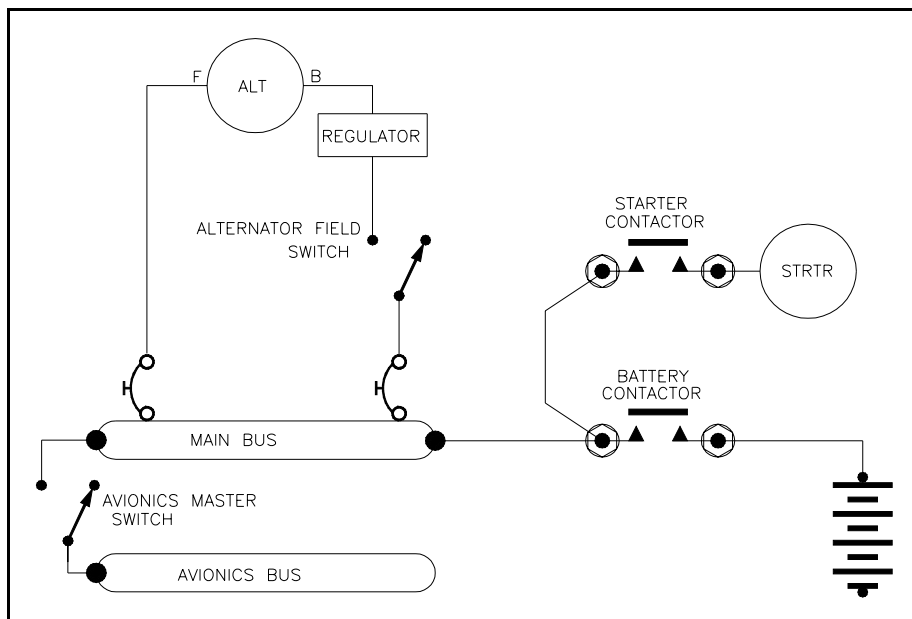
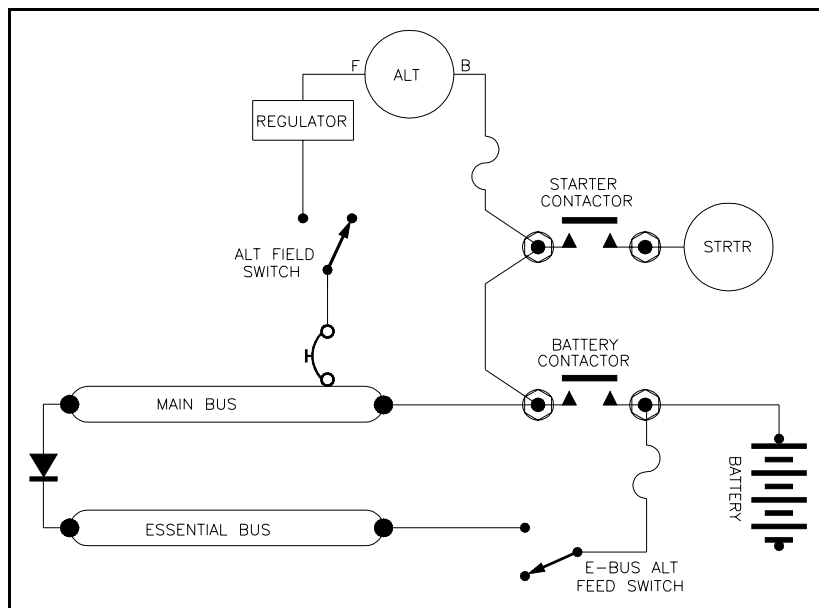
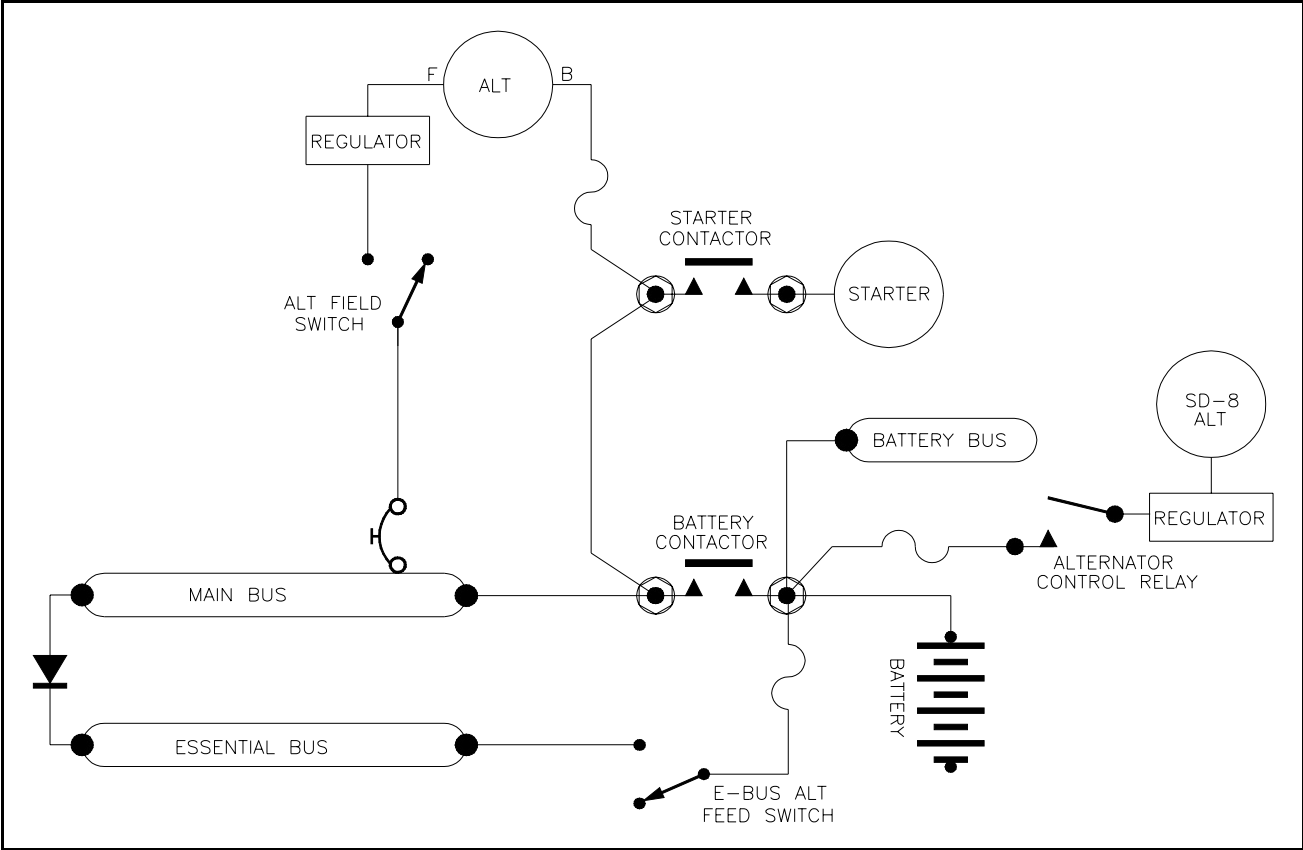
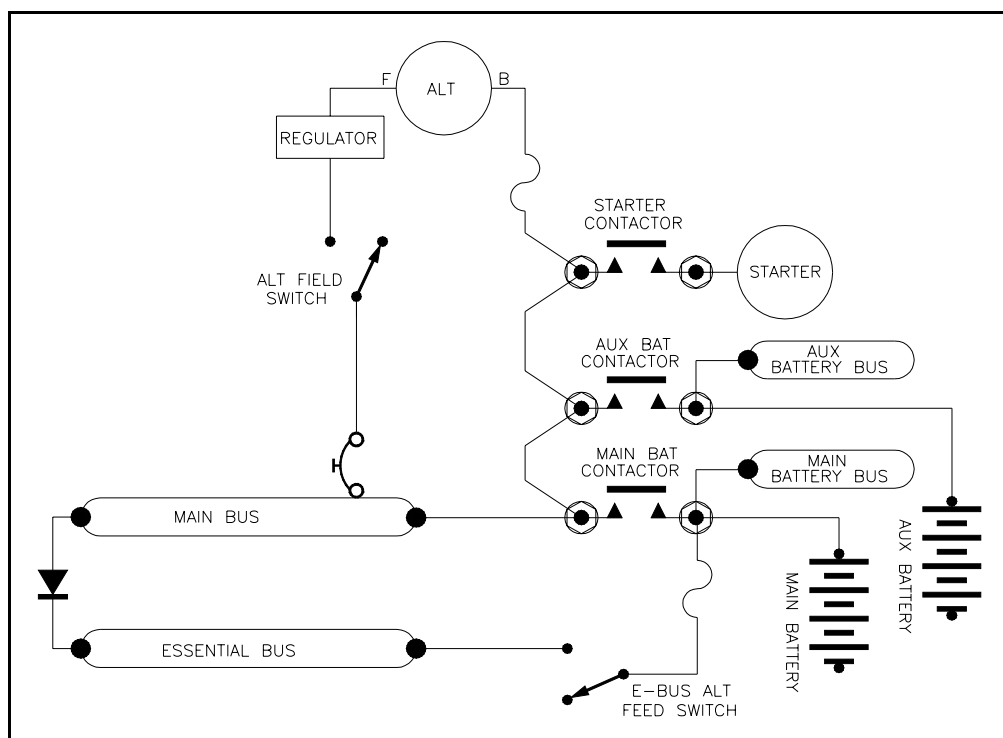

Figure 17-1. Rudimentary Single Battery, Single Alternator Power Distribution System.
Figure 17-2. Single Battery, Single Alternator System with Dual Feed Essential Bus.
Figure 17-4. Adding the SD-8 Auxiliary Alternator
Figure 17-6. Dual Battery Installation
Figure 17-1 illustrates the factory wired configuration for pilot Gomez's Cessna 172RG. Noteworthy points to ponder include the traditional practice of routing the alternator's power output lead (often called the B-lead) directly to the main bus inside the cockpit. There was probably an avionics bus with a single power feed through an "Avionics Master" switch. This particular theme for power distribution has been standard on single engine aircraft since the mid 60's. Had pilot Gomez's airplane been wired a bit differently, the course of his experience could have been much different.
Figure 17-2 makes three important modifications over the system described above. First, the alternator B-lead is tied into the power distribution system on the firewall using an in-line fuse instead of a circuit breaker. This change provides for a much lower resistance path between the alternator (the noisiest device in the electrical system) and the battery (the best filter in the electrical system). An important feature of this change is to size the alternator's B-lead fuse such that nuisance blowing is not going to happen. Most certified airplanes with 60A alternators also have 60A breakers in their B-lead feeds. Under certain but not uncommon conditions, a 60A alternator's output can exceed its rated value and trip the breaker. Tens of thousands of certified aircraft have an alternator breaker *designed to nuisance-trip*. The B-lead breaker recommended for a 60A alternator is not less than 70A. A B-lead fuse should be 80A.
The most important feature in Figure 17-2 is the alternate power feed path between the battery and the essential bus. This power pathway supplies essential bus accessories even if the main bus has been shut down. Further, it's independent of the battery contactor. If you're in an alternator-out mode and need to conserve battery energy, then the approximately 1 Amp draw needed to keep the contactor closed is eliminated. A battery contactor draws more power than 2 navigation radios!
Figure 17-4 suggests a way to incorporate the SD-8 into a two alternator, single battery electrical system with an excellent reliability analysis. Recall earlier when we were adding up lights, radios and instruments to deduce the E-bus
loads? If you're considering electrically dependent ignition or fuel delivery systems, battery support of electrical loads during alternator-out operations may require an unpractically large battery. In these cases, a second alternator is the solution. The architecture described in Figure 17-4 is the easiest way to make it happen.
There are two important variations on a theme I'd like to discuss now. First, one may consider adding a second battery to the architecture of Figures 17-2, 17-3. One could add a second battery to Figure 17-4 but the value of doing so will be overshadowed by the second engine driven energy source.
Figure 17-6 illustrates the methodology for adding a
Now it's time to apply what we know to select an electrical system that fits your airplane and the way you intend to use it. Figure 17-1 illustrates the way 95% of all production single engine airplanes are wired. I've suggested that pilot Gomez's story would have read much differently had his airplane been wired differently. The majority of our builders will find the architecture in Figure 17-2 adequate to their needs. If pilot Gomez's airplane had received the simple modification to provide minimal lighting, primary navigation and rudimentary flight instrument power from an alternate feed to the battery, his story would have not be very exciting. Turn the essential bus alternate feed switch ON, battery/alternator master switch OFF and continue flying the airplane to a comfortable arrival. Of course, we're assuming that the FBO who rented the airplane replaces batteries in their rental fleet when their capacity drops below useful levels . . . yeah, right.
The architecture of Figure 17-2 lends itself to orderly upgrade to either a second battery (Figure 17-6) or an aux alternator (Figures 17-4 and 17-8). The compelling reason for upgrading to dual batteries is when both magnetos have been replaced with electronic ignition systems. If you don't plan to have a vacuum system and want dual electronic ignition, then putting an auxiliary alternator on the vacuum pump pad makes the most sense and you can stay with a single battery. B&C alternators have demonstrated fleet failure rates better than 0.5 per 100,000 flight hours . . . an 8-amp auxiliary alternator is about 5x the price of an 17 a.h. auxiliary battery but it's 1/4 the weight.
- 99% of single engine airplanes are wired per Figure 17-1, I've illustrated numerous options to improve upon certified aviation's carved-in-stone shortcomings. Do some considered planning on the architecture that best fits your needs. Further, take comfort in knowing that should your needs change or you find that the first pass at a design falls short of your needs, you can FIX IT with a more useful configuration without having to seek blessings from ANYONE..